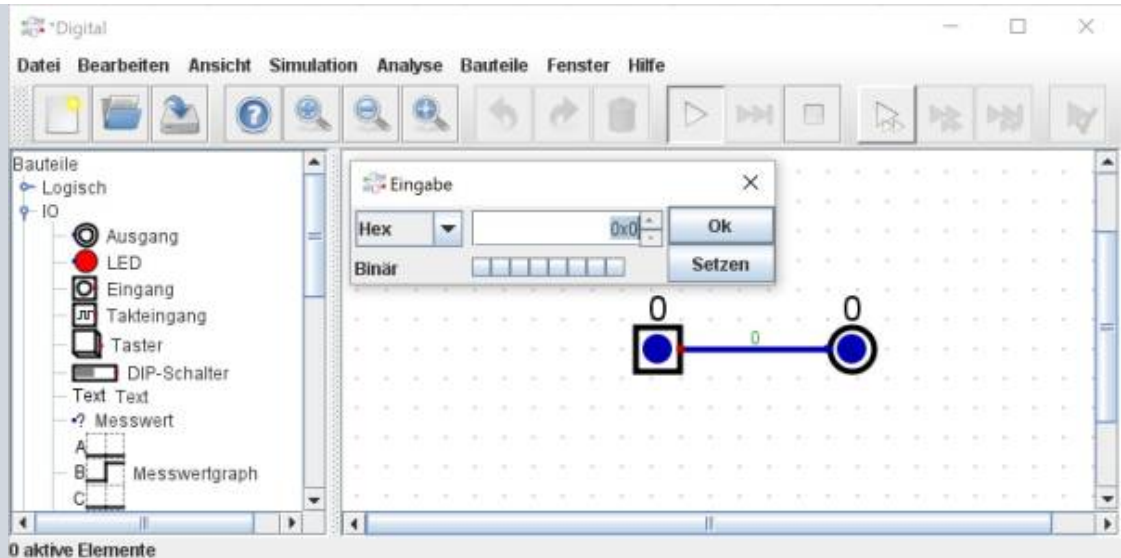

Fig. 3: Circuit with 8 bit bus
5. If the circuit is started now, a 0 appears over input, line, and output (see figure 3).
6. A (left)click on the input no longer changes the value directly, but opens an input window. In this window, numbers can be entered as decimal values (10), binary values (0b10), hexadecimal values (0x10), or octal values (010). Pressing Line break (<↵>) accepts the value and closes the input window. Clicking Shift + New Line (<⇧>+<↵>) accepts only the value. The cursor keys up/down allow the displayed value to be counted up/down.